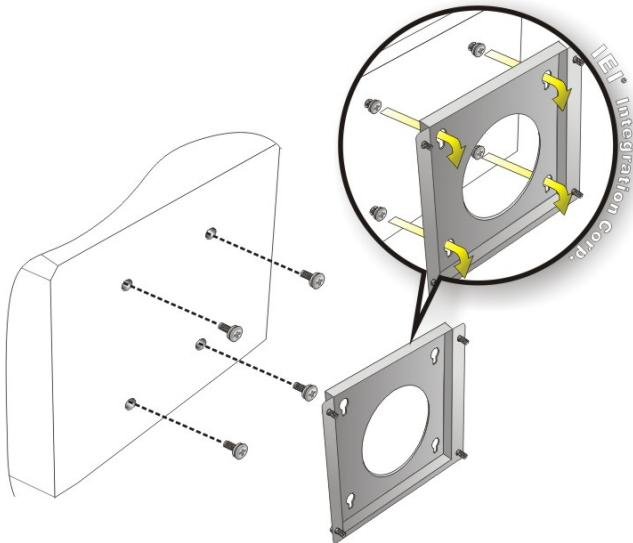

Figure 3-29: Mount the Chassis
- Step 6:** Insert the four monitor mounting screws provided in the wall mounting kit into the four screw holes on the real panel of the monitor and tighten until the screw shank is secured against the rear panel (Figure 3-29).
- Step 8:** Carefully insert the screws through the holes and gently pull the monitor downwards until the monitor rests securely in the slotted holes (Figure 3-29).